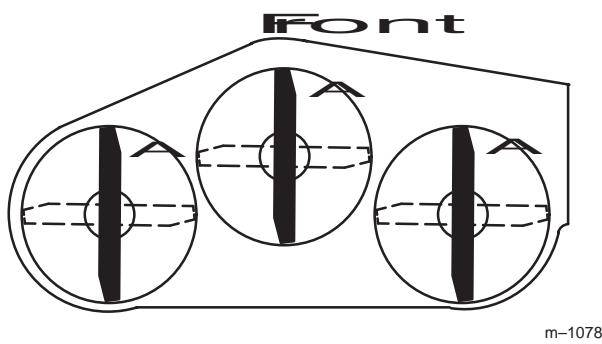

Figure 36
1. Rotate the blades until the ends face forward and backward (Fig. 36). Measure from a level surface to the cutting edge, position A, of the blades (Fig. 37). Note this dimension.